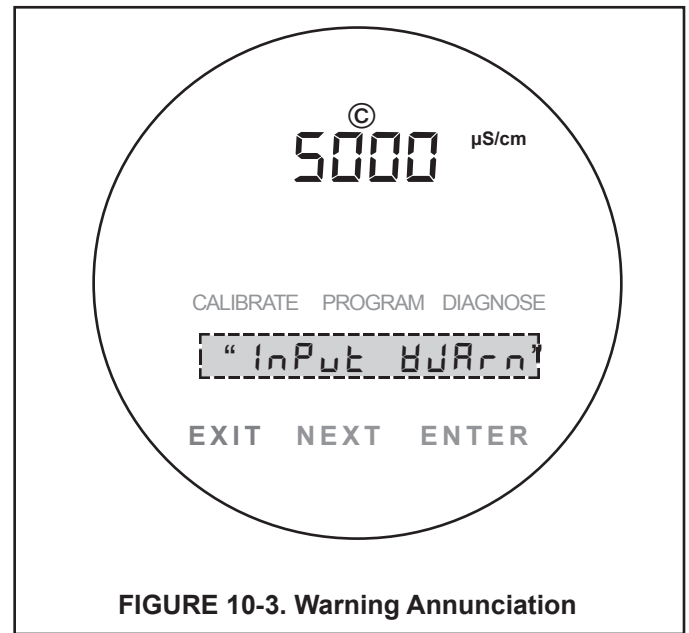

FIGURE 10-3. Warning Annunciation
1. Both FAULT and HOLD annunciation fields will become active (see Figure 10-3).
When a **non-system-disabling** condition occurs, a warning message is displayed. The process variable does not flash. The appropriate message alternates with the Temperature/Current output display (see Figure 10-3).